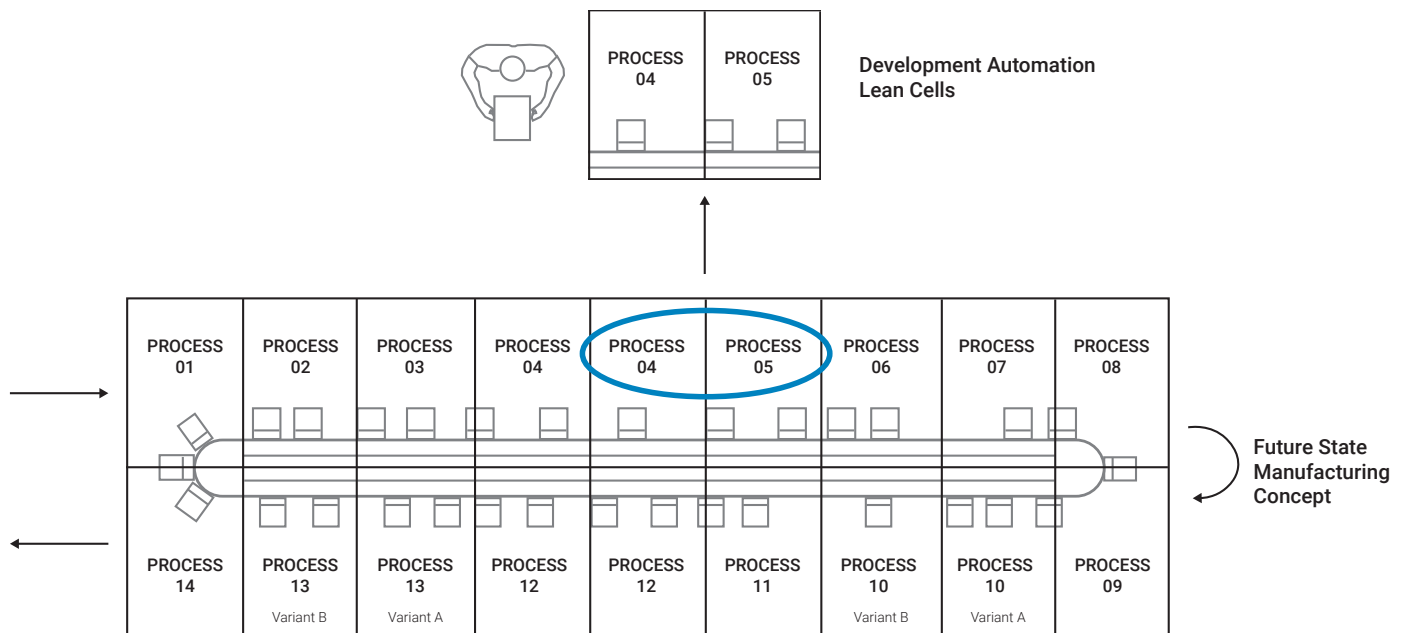

Figure 2: With the finish line in mind, select appropriate technologies and automation early to assist with the development phase.
Starting with the end in mind, choose technology that you can grow from development quantities to high volume. Any lessons learned, intellectual property (IP) generated or skills fostered in the workforce can now be applied later in the production process. As shown in Figure 2, a component of a high-volume concept can be used for product and process development – in this case, to build process knowledge on the equipment for the future.